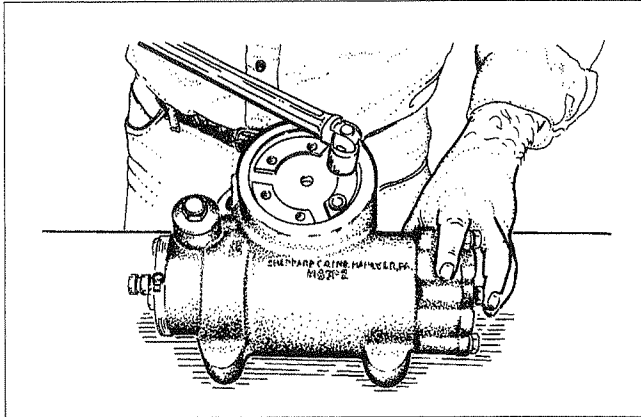

Figure 27
4. Remove the rubber plug from the sector shaft cover. Remove the 6 bolts from the sector shaft cover using a 13mm socket (Figure 27).